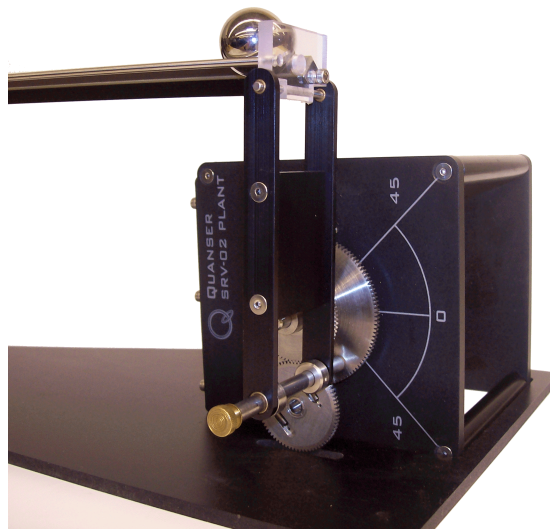

Figure 4.1: Setting up the SRV02-side of the BB01 plant
3. As pictured in Figure 4.1, place the SRV02 on its side such that the potentiometer gear fits into the cut-out section of the calibration base. Notice that the top gear of the SRV02 should be the small 24-tooth motor pinion gear.
4. Fasten the coupling screw, component #3, into the screw hole of the large 120-tooth load gear as depicted in Figure 4.1.